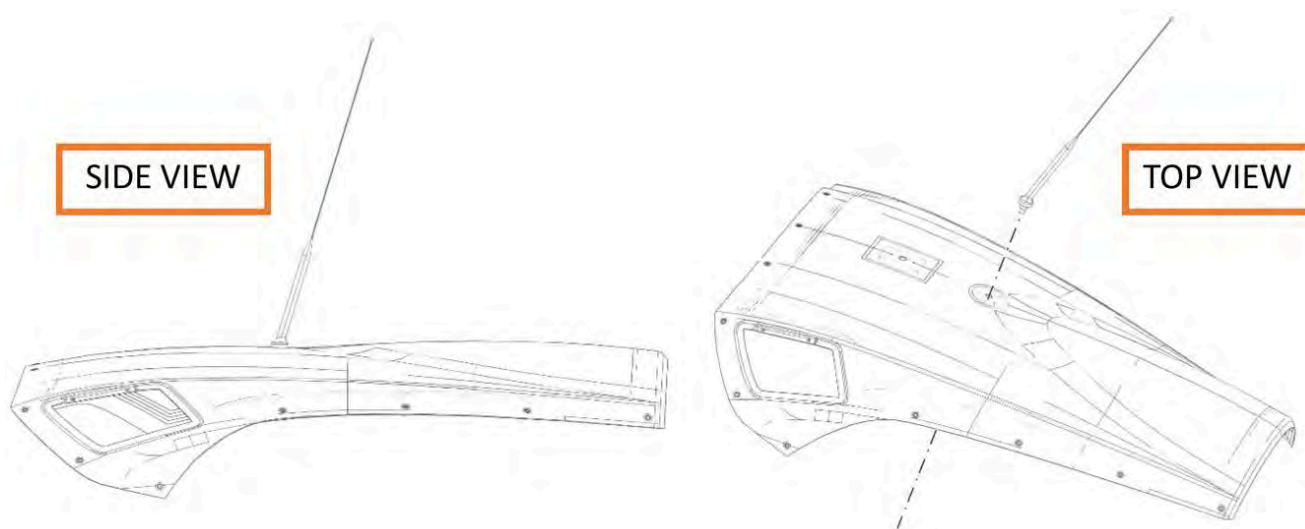

FIGURE 14-33
- b. Orient the four ground wires 90° from one another as shown. (Figure 14-33)